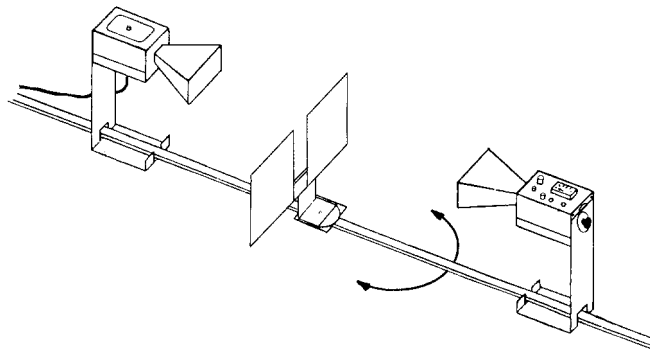

Figure 12: Equipment Setup
1. Arrange the equipment as shown in figure 12. Use the Slit Extender Arm and both Reflectors to construct the vertical slit. Set the slit width to 7.0 cm and align the slit as symmetrically as possible.